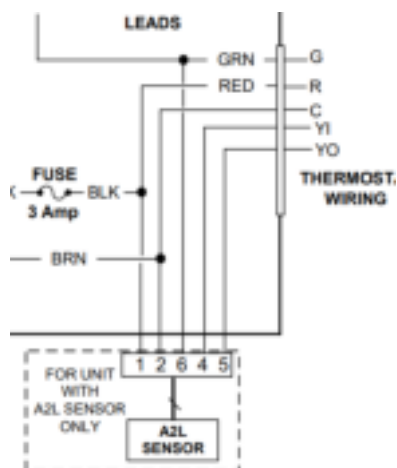

Figure 2: A2L Sensor example wiring
- 5) Connect the A2L harness (Figure 1.5) from the sensor (Figure 1.3]) to the unit wiring kit Molex. Refer to the **unit wiring diagram** for sensor wiring. Figure 2 shows an example wiring diagram excerpt.